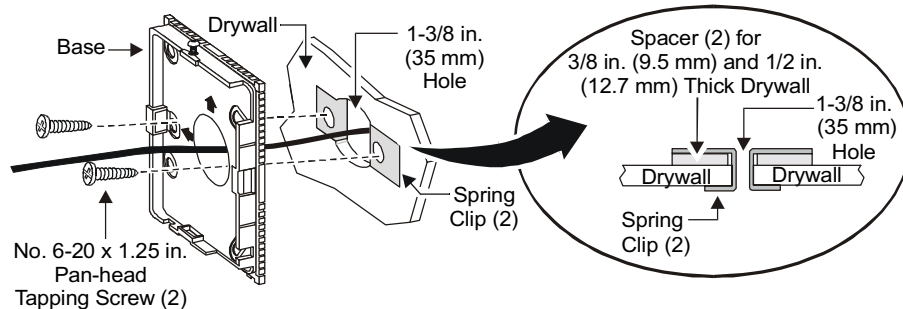

Figure 5: Surface Mounting to Drywall
To mount the surface model to drywall, refer to Figure 5 and proceed as follows:
4. Insert the spring clips on each side of the drilled 1-3/8 in. (35 mm) hole, and use the spacers, if needed, as shown in Figure 5. Do not use the spacers for 5/8 in. (16 mm) drywall.